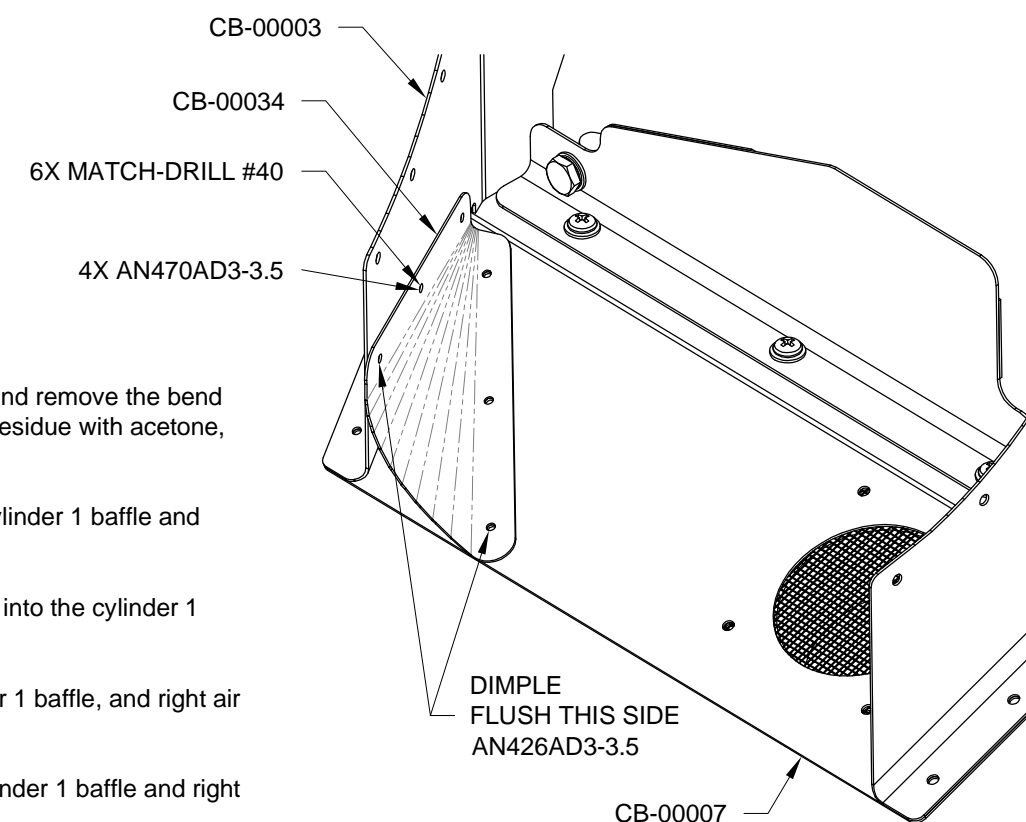

FIGURE 4: ATTACH RIGHT AIR RAMP CONE
Test-fit the cone to the aircraft at the corner between the CB-00003 Cylinder 1 Baffle and CB-00007 Right Air Ramp as shown in Figure 4.
Step 11: Clamp the cone to the cylinder 1 baffle and right air ramp. See Figure 4.
Step 13: Dimple the cone, cylinder 1 baffle, and right air ramp as shown in Figure 4.
Step 14: Rivet the cone to the cylinder 1 baffle and right air ramp as shown in Figure 4.